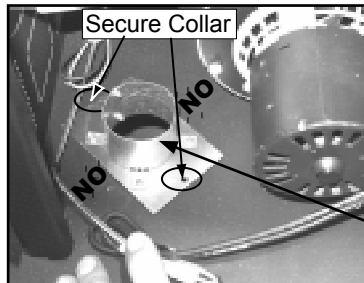

Figure 17.2
- Align and secure collar assembly with 2 of the 4 holes as shown. **Figure 17.2.**